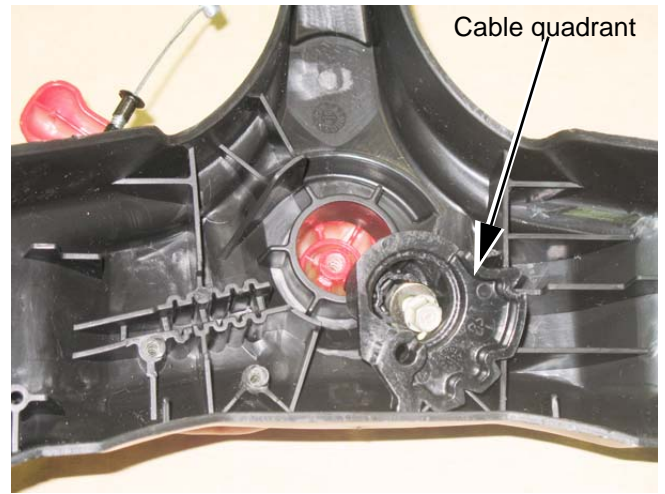

Figure 5.13
- 10c. Separate the control lever from the cable quadrant by removing the screw that connects them. Use a 5/16" wrench or driver. See Figure 5.13.